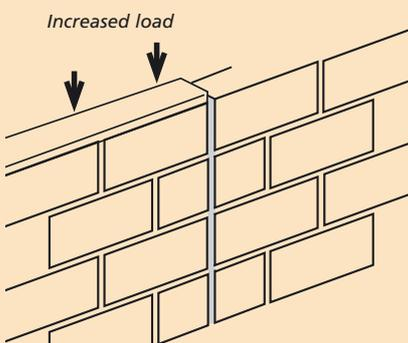

Fig. 4
- Change of loading (see Figure 4).